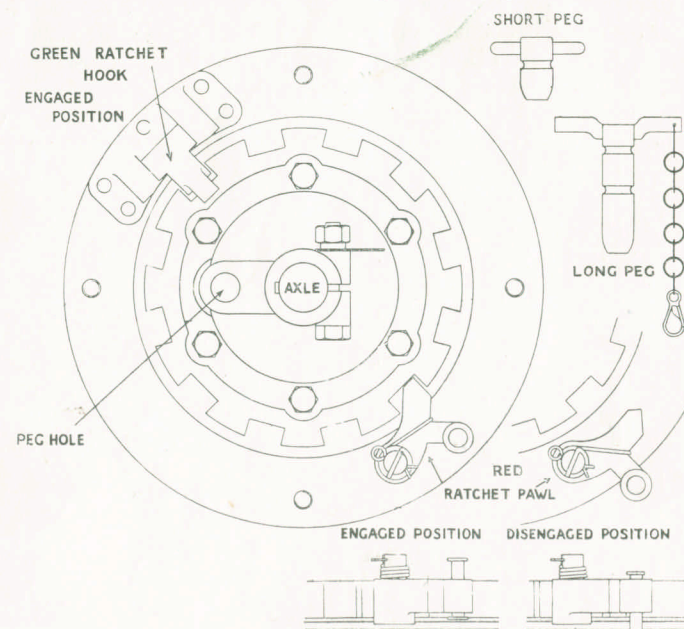

FIG. 11.
(A) The connections between wheelshaft and gearing are as follows: (see Fig. 11)
- (1) When fully inserting the long peg (fitted with a chain) in the hole provided in the left-hand hub, the bottom speed is engaged. This speed is to be used for heavy deep tillage.
- (2) When fully inserting this long peg in the right hand hub, the top speed is engaged. This speed is to be used for light surface cultivation.
- (3) When inserting this long peg only half-way in one or the other hubs, no speed is engaged and the machine can be wheeled about and can travel from place to place even with the engine stopped.
(B) The connection between wheelshaft and driving wheels can be effected by two distinct devices, viz., the Green Ratchet Hook securing rigid connection and the Red Ratchet Pawl enabling "free wheel" action (see Fig. 11), entire disconnection being obtained when both these two Ratchets are lifted. Out of the 16 obtainable combinations resulting, the more commonly used are indicated below :—
- (1) For Rototillage on light or medium soil, one wheel should have both Green Hook and Red Pawl down and the other wheel can have Green Hook lifted and Red Pawl down, thus facilitating turning at the end of the row.
- (2) For Rototillage on very stiff soil, both wheels should be rigidly connected, which is best obtained by both Green Hooks down, whereas Red Pawls remain lifted. If turning is found difficult, one of the Green Hooks can be lifted before operating the turning and dropped again after turning has been effected.
- (3) For mowing, the L.H. Wheel should have both Green Hook and Red Pawl lifted and the R.H. Wheel the Green Hook down.
- (4) For ploughing and other traction work on the field, both wheels should have Red Pawl down and Green Hook lifted except for No. 51, where one of the wheels should have the Green Hook down.
- (5) For road travel, one wheel should be rigidly connected, the other free wheeling, which is best obtained by one wheel with both Green Hook and Red Pawl down and the other wheel with Green Hook lifted and Red Pawl down.
- (6) For stationary work, special precautions should be taken to prevent any possibility of the wheels being set in motion, these precautions consisting in the first place by inserting the Long Peg only half way as described under A3 on page 13, and further by lifting both Green Hook and Red Pawl on both wheels.